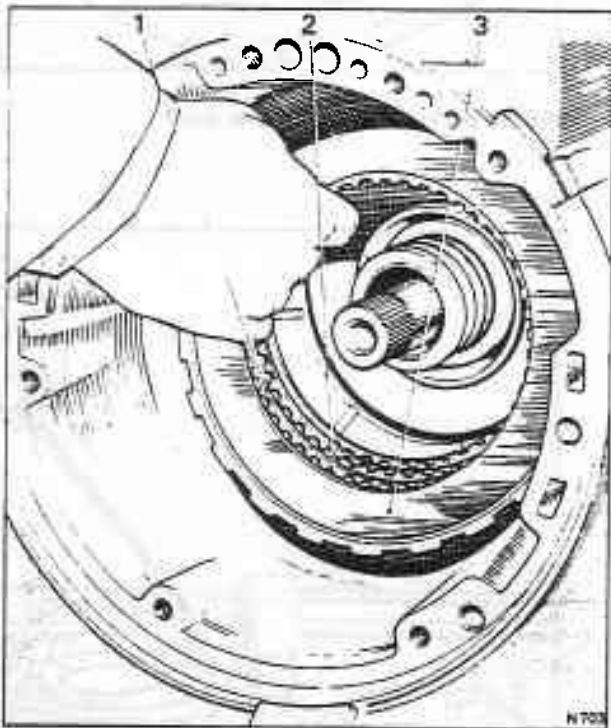

Fig. T19-23 Fitting the intermediate clutch plates
11. Lubricate the one waved and two flat steel plates (three flat steel plates on Mulsanne Turbo cars prior to 1984 model year) also the three composition intermediate clutch plates with clean transmission fluid, then fit the clutch plates. Commence with the waved steel plate, then fit alternate composition and flat steel plates (see fig. T19-23).